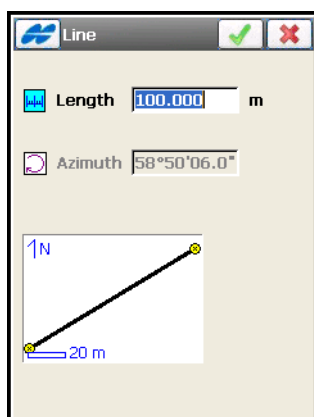

Figure 7-9. Add Line
2. On the *Line* screen, enter the length of the line element and the azimuth only for the starting element of the road (Figure 7-9 on page 7-8). By default, the azimuth is set tangent to the previous element. To change the azimuth of all other elements, remove the check mark from the *Tangent to Previous Item* box on the Help Icon in the upper-left corner of the screen.